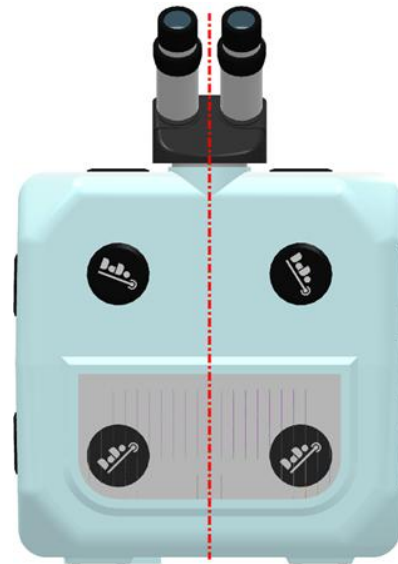

Fig. 6-8 – Binocular alignment
- Place the binocular in the installation point, as shown in Fig. 6-8;
- After aligning the binocular, tighten the screw on the rear side (do not tighten excessively), by using the 2,5 mm hex key (detail in Fig. 6-8).